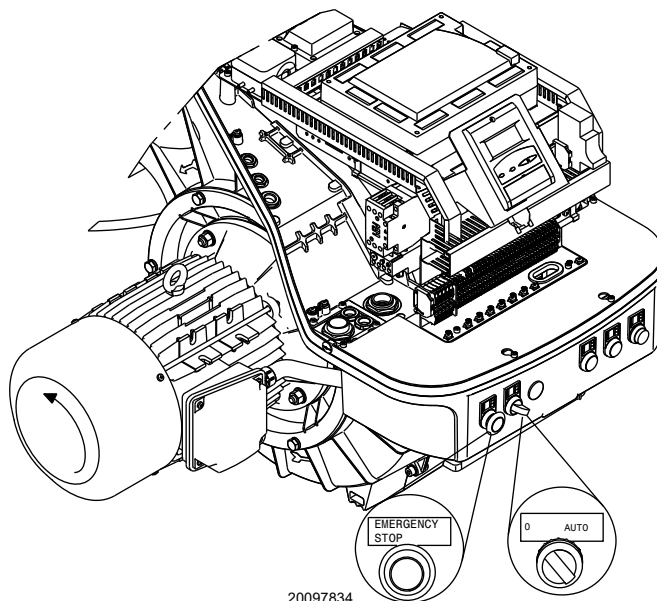

Fig. 26
Turn the switch to position “**AUTO**” (Fig. 26).
Make sure that the lamps or testers connected to the solenoids, or indicator lights on the solenoids themselves, show that no voltage is present. If voltage is present, stop the burner **immediately** and check the electrical wiring. When the burner starts, check the direction of the motor rotation, as indicated in Fig. 26.
- place the switch of Fig. 26 in position “**0**” and wait for the control box to carry out the switch-off phase;